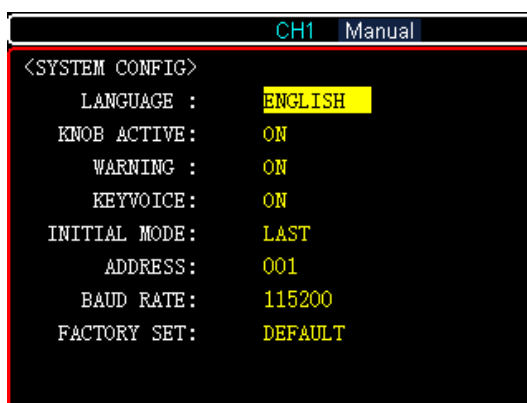

Figure 8-3 System Configuration
Other parameter setting as the same, system configuration as shown in Figure 8-3
- (1) Use rotary knob or direction key to move the cursor to 【baud rate】 , as shown in Figure 8-3.
- (2) Use rotary knob or direction key to switch baud rate.
- (3) Press Enter key to confirm and set the selected the baud rate.